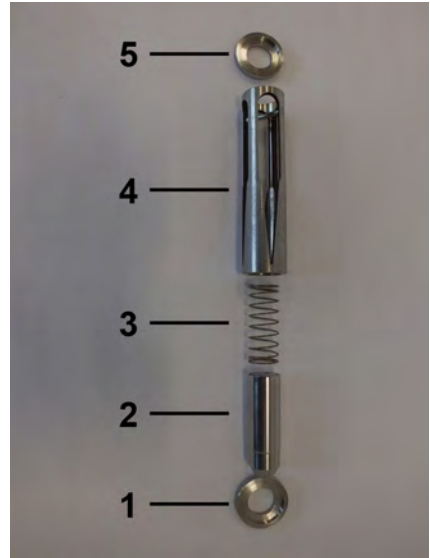

Fig. 45: Inner parts SW-06
10. ▶ The inner parts of the flow monitor consist of the centering disc (inlet) (Fig. 45/1), float (Fig. 45/2), spring (Fig. 45/3), slot nozzle (Fig. 45/4) and centering disc (outlet) (Fig. 45/5).
6. The inner parts of the flow monitor consists of the centering disc (inlet) (Fig. 45/1), float (Fig. 45/2), spring (Fig. 45/3), slot nozzle (Fig. 45/4) and centering disc (outlet) (Fig. 45/5).